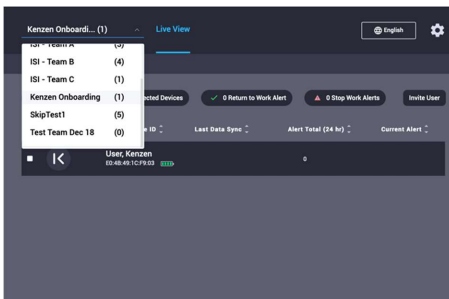

Figure 27: Select individual teams
4. Select the drop-down menu in the upper left to view all members of the selected team (Figure 27).